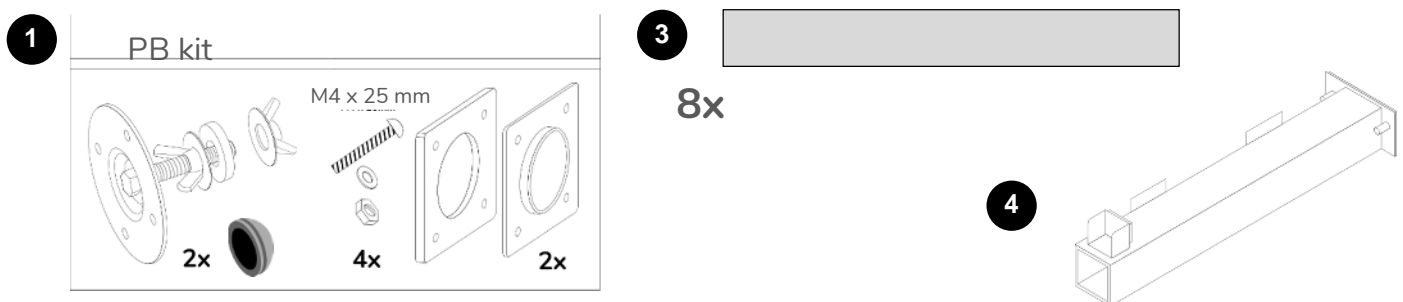

Figure 25: LFP expansion install kit - mechanical parts.
2. See section 5.5 (figure 12) – remove the lower DC- cable (referenced A3) from the DC- terminal, and replace with the cable referenced A5 in figure 25 below.